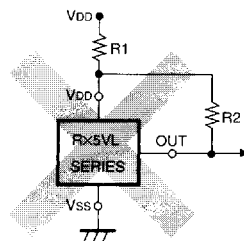

FIG. 9
2. The connection as shown in FIG. 9 may cause the oscillation in both R×5VL××C (CMOS Output) and R×5VL××A (Nch Open Drain Output).